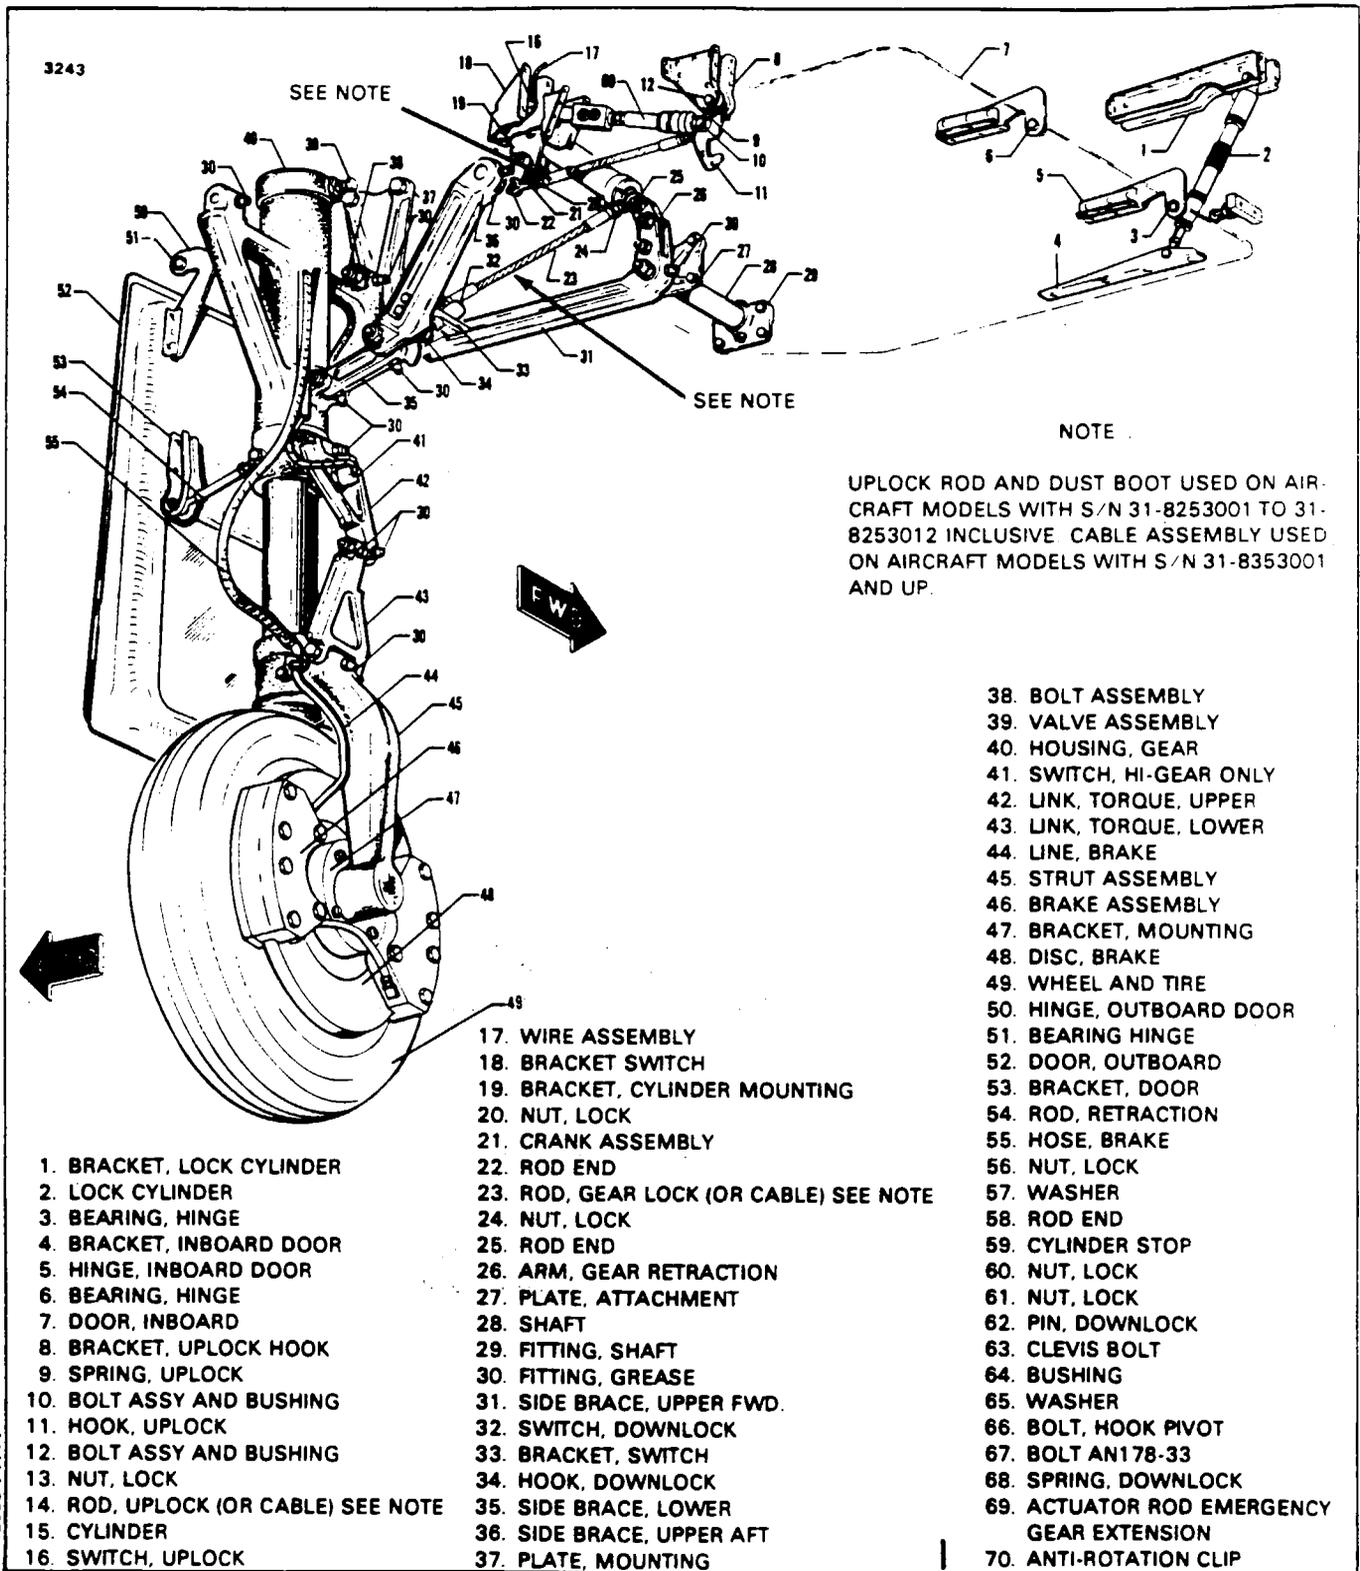

Figure 32-2. Main Landing Gear Installation (Left)
REMOVAL OF MAIN LANDING GEAR. (Refer to Figure 32-2.)
9. Attach the upper and lower drag links and check that when stop surfaces of the two links contact, linkage is .063 to .156 inch through center. (Refer to Figure 32-2.) Should this distance exceed the required through center travel and all bolts and bushings are tight, replace one or both side brace links.
INSTALLATION OF MAIN LANDING GEAR. (Refer to Figure 32-2.)
If downlock cable is used, insure the anti-rotation clip is installed at the upper drag link arm as shown in Sketch B of Figure 32-2.
ADJUSTMENT OF MAIN LANDING GEAR. (Refer to Figure 32-2.)